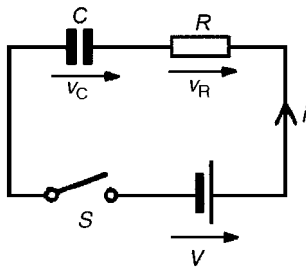

Figure 18.1
- (a) The circuit diagram for a series connected C – R circuit is shown in Fig. 18.1. When switch S is closed then by Kirchhoff’s voltage law: